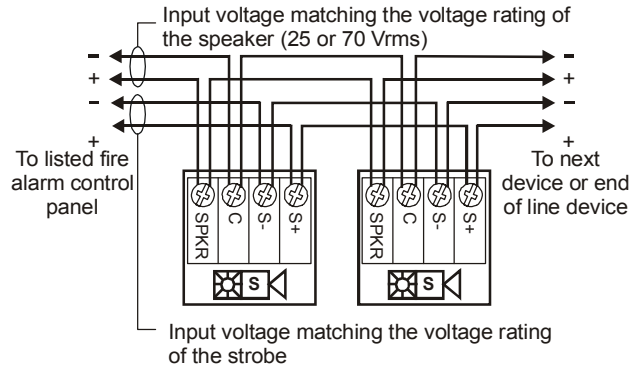

Figure 3: Wiring diagram
3. Connect the speaker and strobe terminals to the signal circuit field wiring. You must observe polarity for the unit to function properly. See Figure 3.